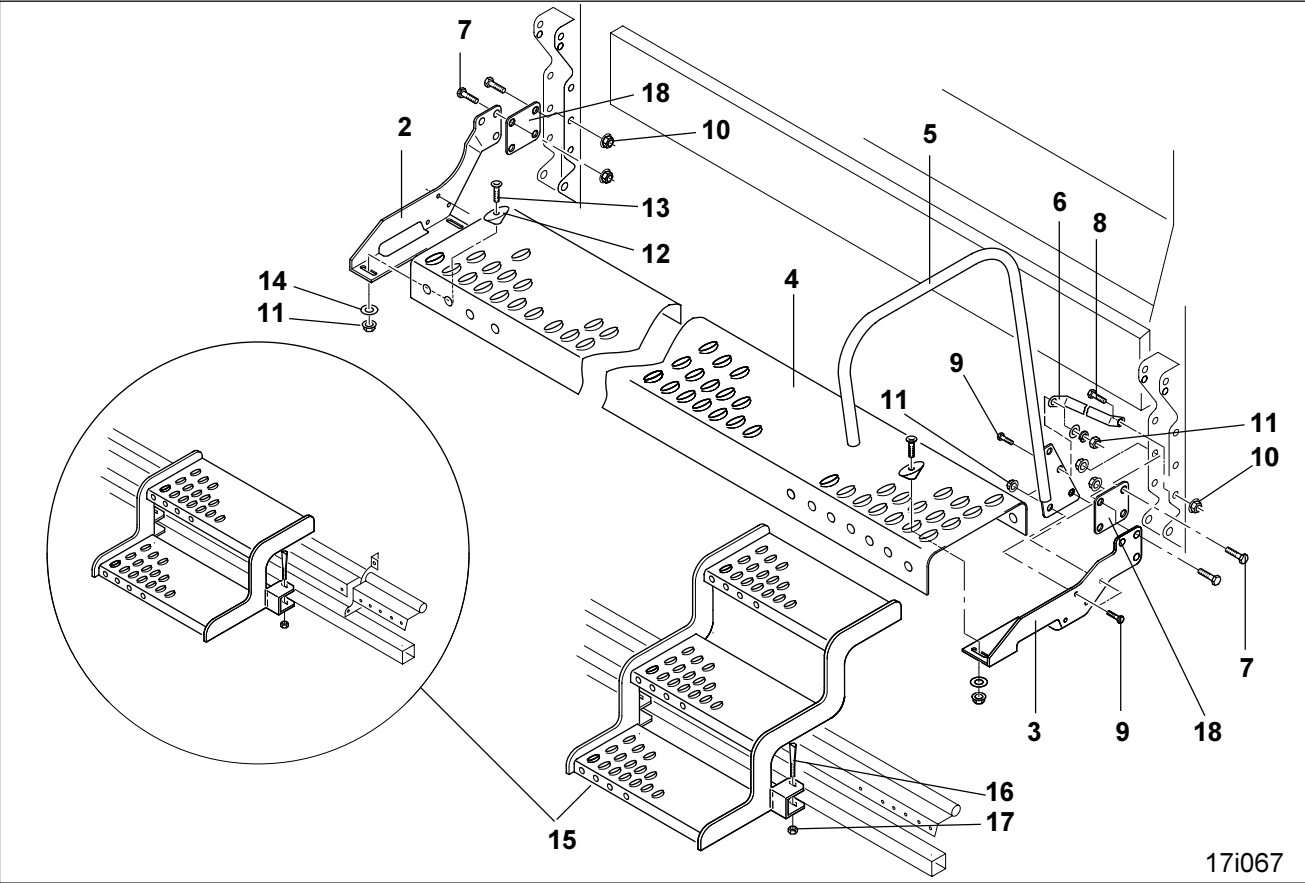

Fig. 15.2
Attach the loading board (Fig. 15.2/4) to the seed drill, and the steps (Fig. 15.2/15) to the extra coverage following harrows main tube.
**Fitting the stair steps (Fig. 15.2/15) with 2 steps to seed drills D9 with 3 steps to seed drills AD 3!**
Fit the steps (Fig. 15.2/15) at random on the right hand or left hand side of the railing (Fig. 15.2/5).
The fitting of the loading board should be carried out according to Fig. 15.2. Please take the individual parts needed for fitting from the table (Fig. 15.1). The numbers shown in this table refer to a seed drill with 3 m working width.
**Do not fit extension (Fig. 15.2/18) to seed drill of the type D9!**